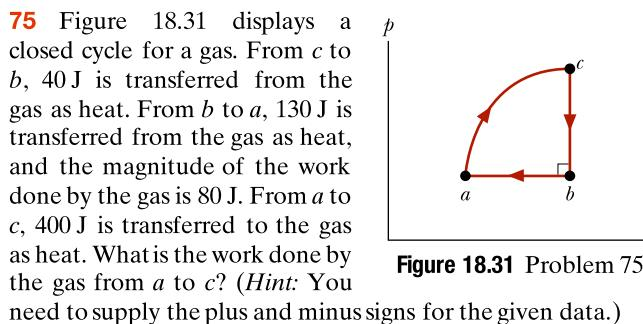

Figure 18.30 Problem 74.
- 74** In a series of experiments, block  $B$  is to be placed in a thermally insulated container with block  $A$ , which has the same mass as block  $B$ . In each experiment, block  $B$  is initially at a certain temperature  $T_B$ , but temperature  $T_A$  of block  $A$  is changed from experiment to experiment. Let  $T_f$  represent the final temperature of the two blocks when they reach thermal equilibrium in any of the experiments. Figure 18.30 gives temperature  $T_f$  versus the initial temperature  $T_A$  for a range of possible values of  $T_A$ , from  $T_{A1} = 0 \text{ K}$  to  $T_{A2} = 500 \text{ K}$ . The vertical axis scale is set by  $T_{fs} = 400 \text{ K}$ . What are (a) temperature  $T_B$  and (b) the ratio  $c_B/c_A$  of the specific heats of the blocks?